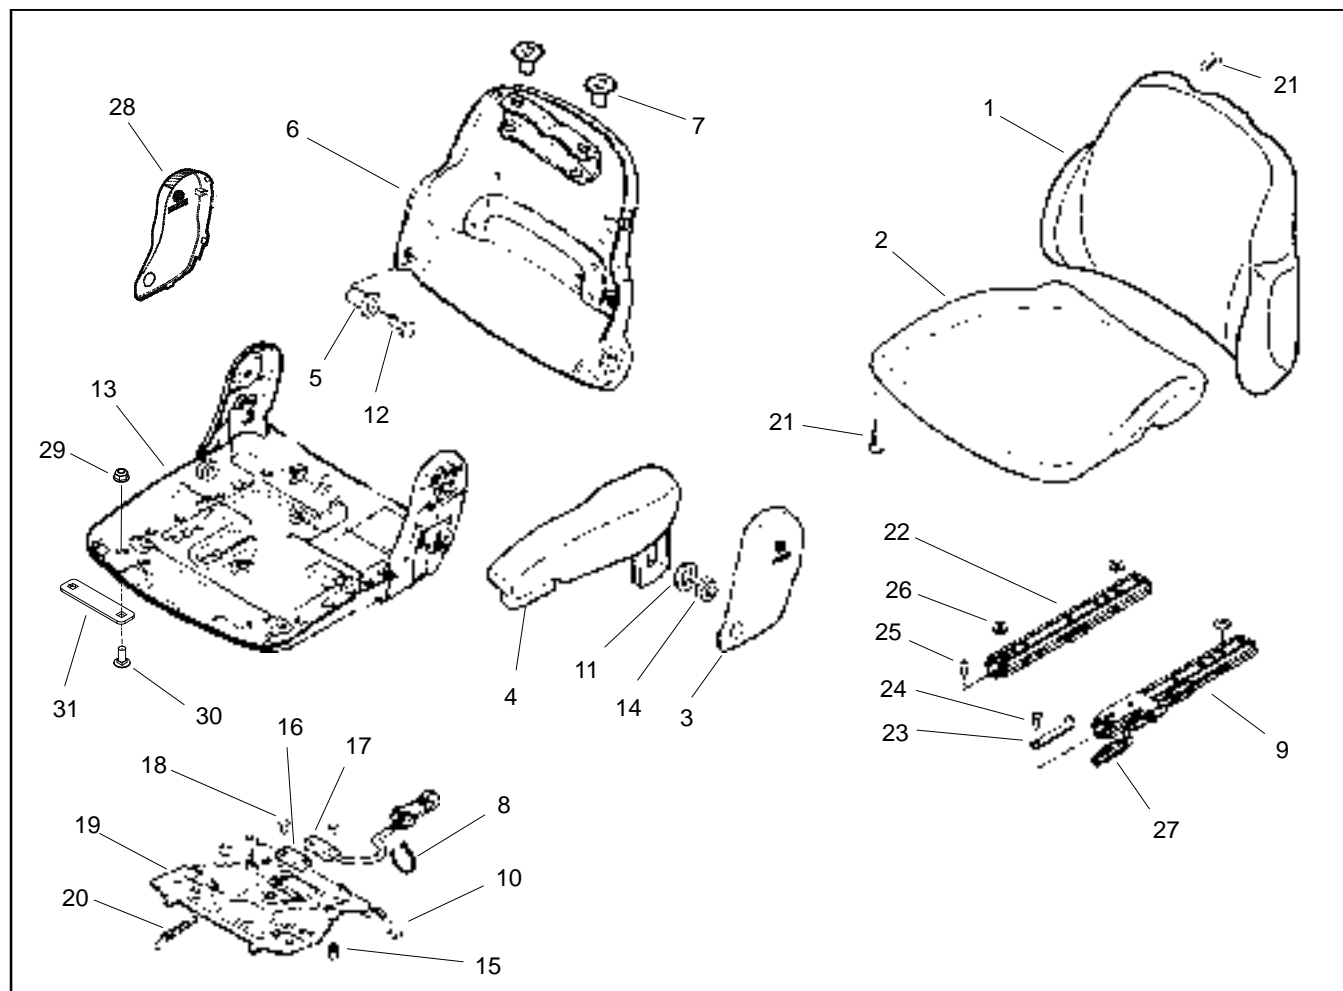

Figure 14
Disassembly (Fig. 14)
2. Disassemble operator seat as necessary using Figure 14 as a guide.
Assembly (Fig. 14)
1. Assemble operator seat using Figure 14 as a guide.